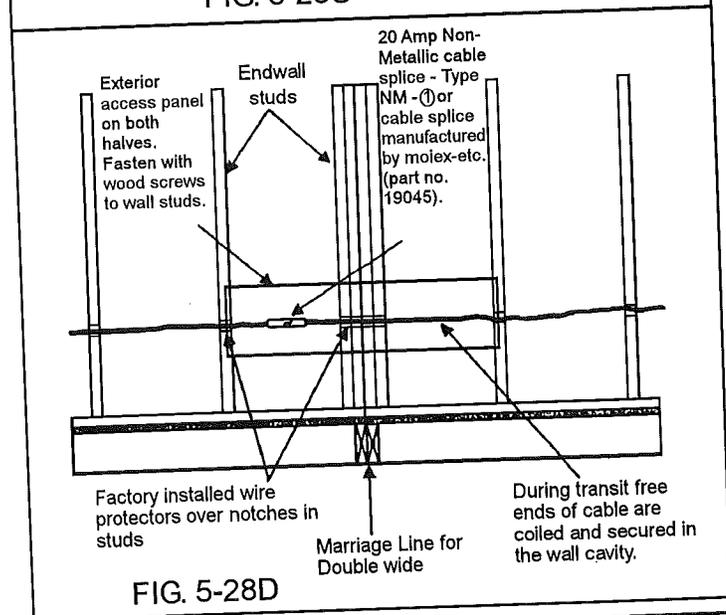

FIG. 5-28D
1. Remove access panels on exterior side of endwall (See Fig. 5-28D).